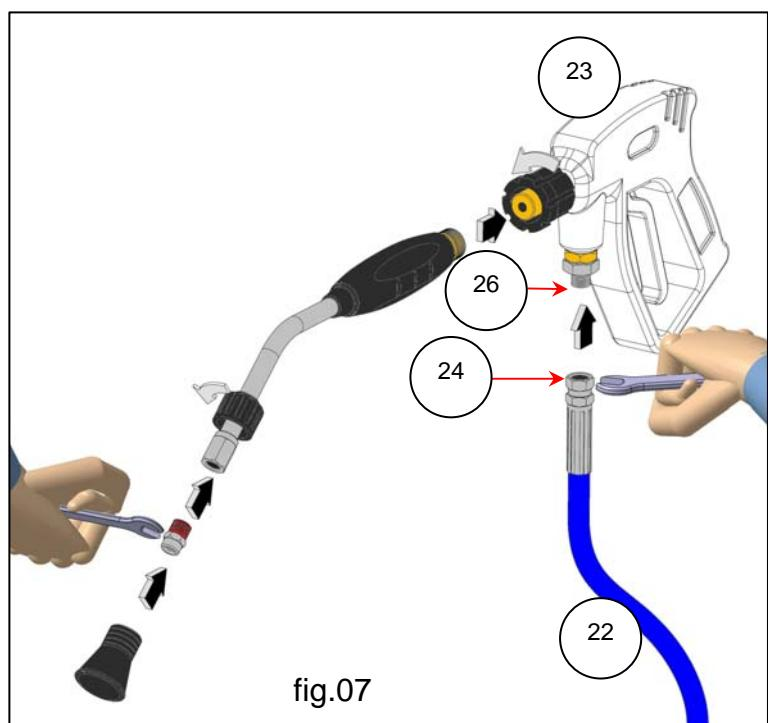

fig.07
- a. Release the high pressure fittings n° 24 (fig.07) from steam hose n° 22 (fig.07). Connect the hose to the outlet fittings 8 or 9 (fig.02) tightening them well (do not use glue), then connect the steam hose to the steam gun 23 (fig.07) by tightening well the fittings (do not use glue).